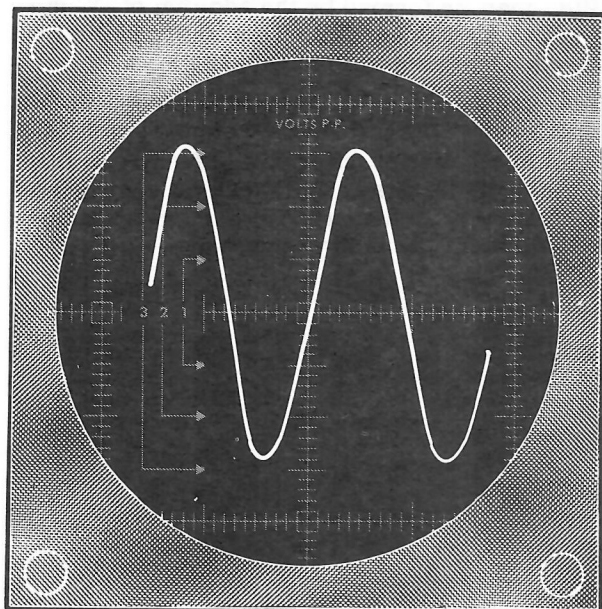

Figure 3-34
- ( ) Turn on the oscilloscope and test chassis. Adjust the oscilloscope for a waveform as directed in Part II. You will start your adjustments with two cycles on the screen. Be sure that the 20 K $\Omega$  control on the test chassis is adjusted so that a sine wave appears such as in Figure 3-34.